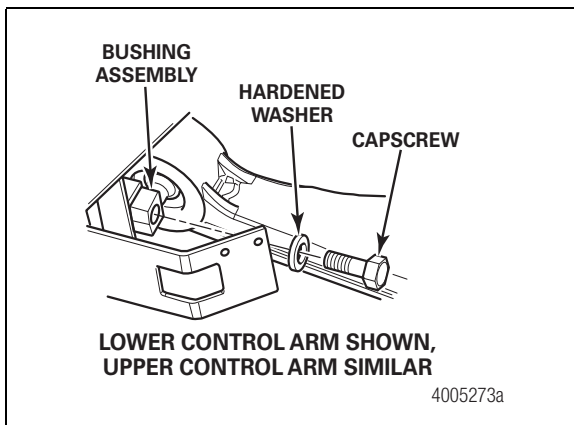

Figure 7.9
- Position the lower control arm onto the frame. Support the lower control arm. Install the four capscrows and washers that secure the lower control arm to the frame. The capscrows will be M18 or M20 depending on the suspension. Tighten the M18 capscrows to 225-273 lb-ft (305-370 N•m). Tighten the M20 capscrows to 369-480 lb-ft (500-650 N•m). Figure 7.9.